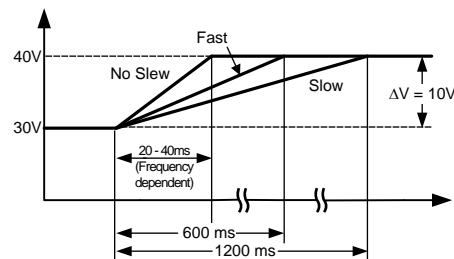

Figure 10. Slew Rate Limitation Circuit
**Output Voltage Slew Rate Limit Settling Time:** Time constant of the internal filter used to limit output voltage change. At the fast slew rate, the output voltage will be held for 60 ms for every 1V increase, whereas in the slow slew rate, the output voltage will be held for 120ms for every 1V increase. (See Figure 10).